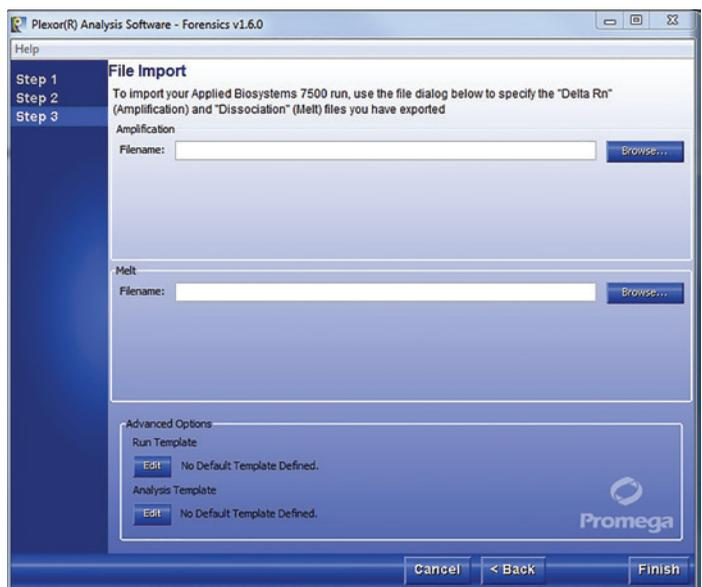

Figure 32. Step 3 – File Import screen.
11. Use the File Import screen, Step 3 (Figure 32), to specify the data files exported from the instrument in Section 5.D. Use “Browse” to locate the appropriate exported amplification and dissociation data files.